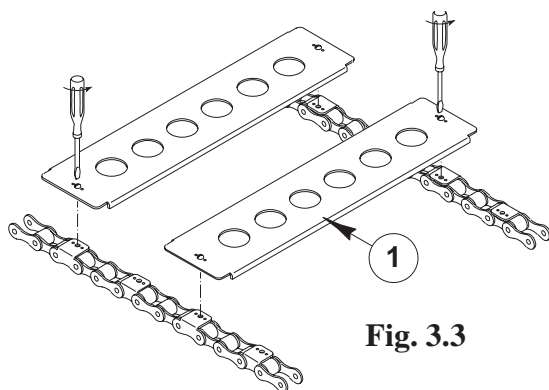

Fig. 3.3
- Replace the shutters (*Part 1 Fig.3.3*)